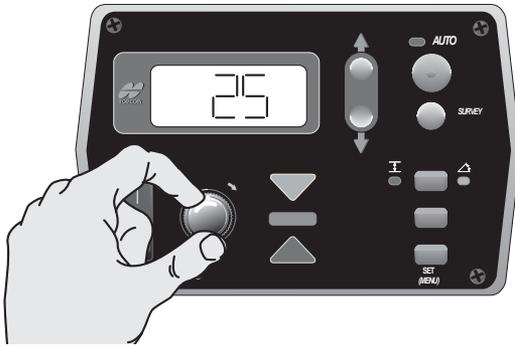

Figure 4-26. Selecting Gain Menu Option
2. Turn the Grade Adjustment Knob to select the desired value, typically 25 for most paving applications (Figure 4-26 on page 4-21).